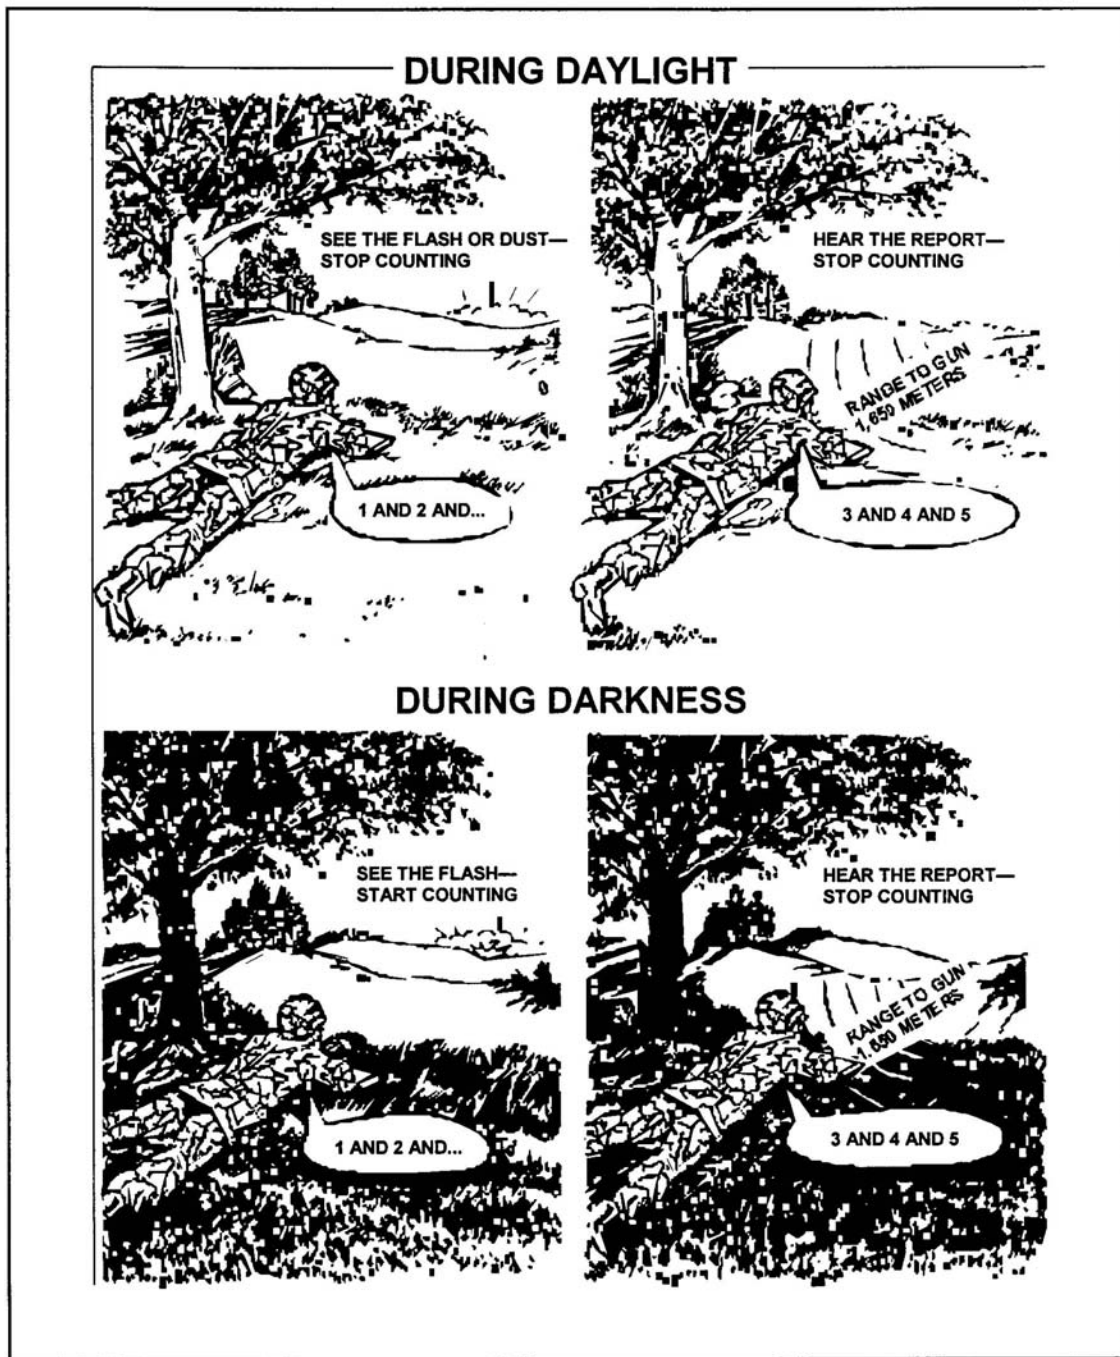

Figure 5. Flash-to-bang method.
- a. Using this method, determine range by measuring the time between the flash and the gun report (Figure 5). Sound travels at the speed of 330 meters per second. Light travels much faster.